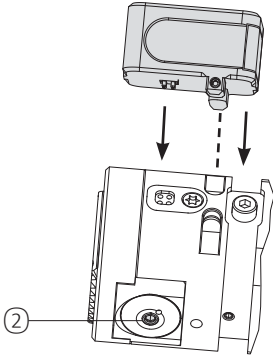
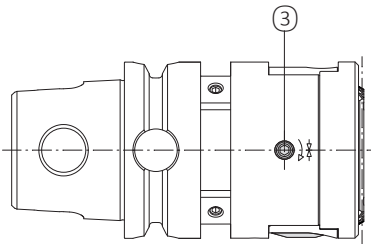

Fig. 1
Fig. 3
Please follow the sequence for setting the diameter as set out below: (Fig. 1, 2, 3):
2. Clip display unit into holding grooves provided in tool (positioning to match contact points, Fig. 1)
3. Switch on the digital readout module by operating the “ON/Reset” ① button. The last displayed increment value appears on the display when it is switched on. Automatic switch-off takes place 30 seconds after the end of the setting procedure. Max. switch-on period 120 seconds.
4. Release threaded clamping pin ③ (Fig. 3).
6. Tighten threaded clamping pin ③ (Fig. 3) (tightening torque 3 Nm (26.55 in. lbs.))